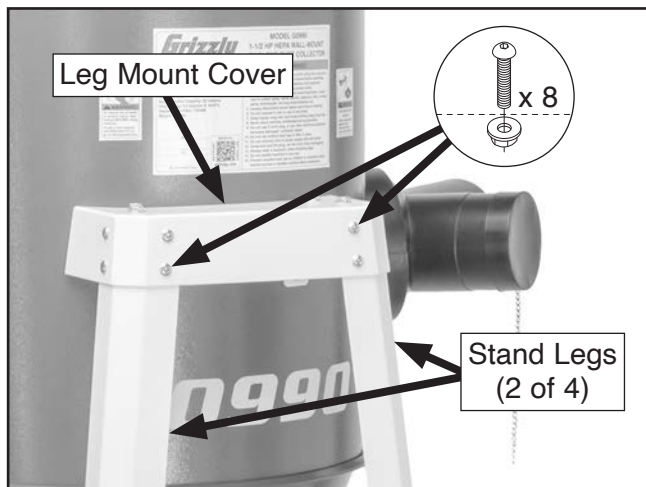

**Figure 6.** Leg mount cover attached to front mounting brackets.
5. Attach (1) leg mount cover to front mounting brackets using (4)  $\frac{5}{16}$ "-18 x  $\frac{1}{2}$ " flange bolts, as shown in **Figure 6**.